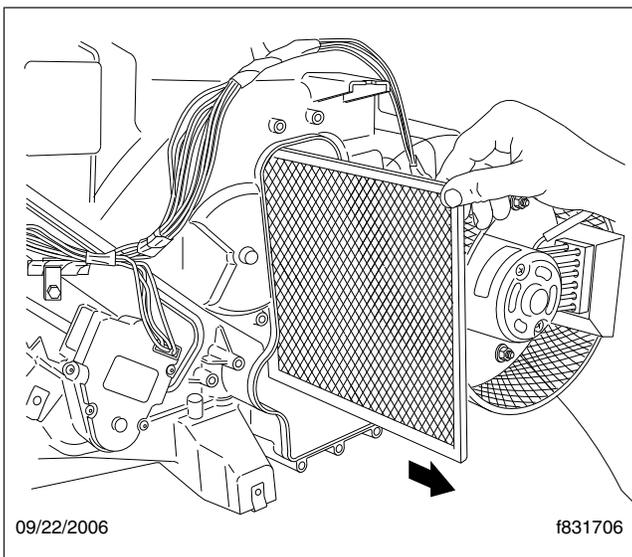

Fig. 2, HVAC Assembly Filter Removal
6. Pull the filter out of the HVAC assembly. See **Fig. 2**.